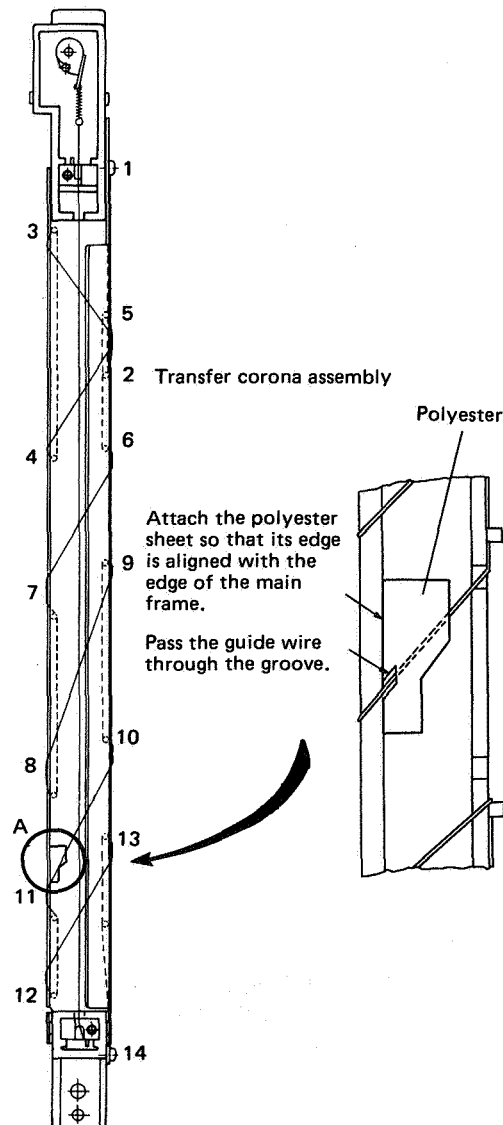

Figure 4-71
- (1) Remove the polyester sheet from area A in the figure at the right, then unreel the guide wire from the reel (0.148 mm $\phi$ ) and cut off about 84 cm.
- (2) Wrap one end of the guide wire around screw 1 two to three times as shown in Fig. 4-71, and tighten the screw.
- (3) Wrap the wire around the corona assembly as shown in Fig. 4-71.
- (4) Wrap the end of the grid wire around screw 14 two to three times as shown in Fig. 4-71. Tighten the screw and clip off the extra wire.
- (5) Attach the polyester sheet to area A as shown in the figure at the right.